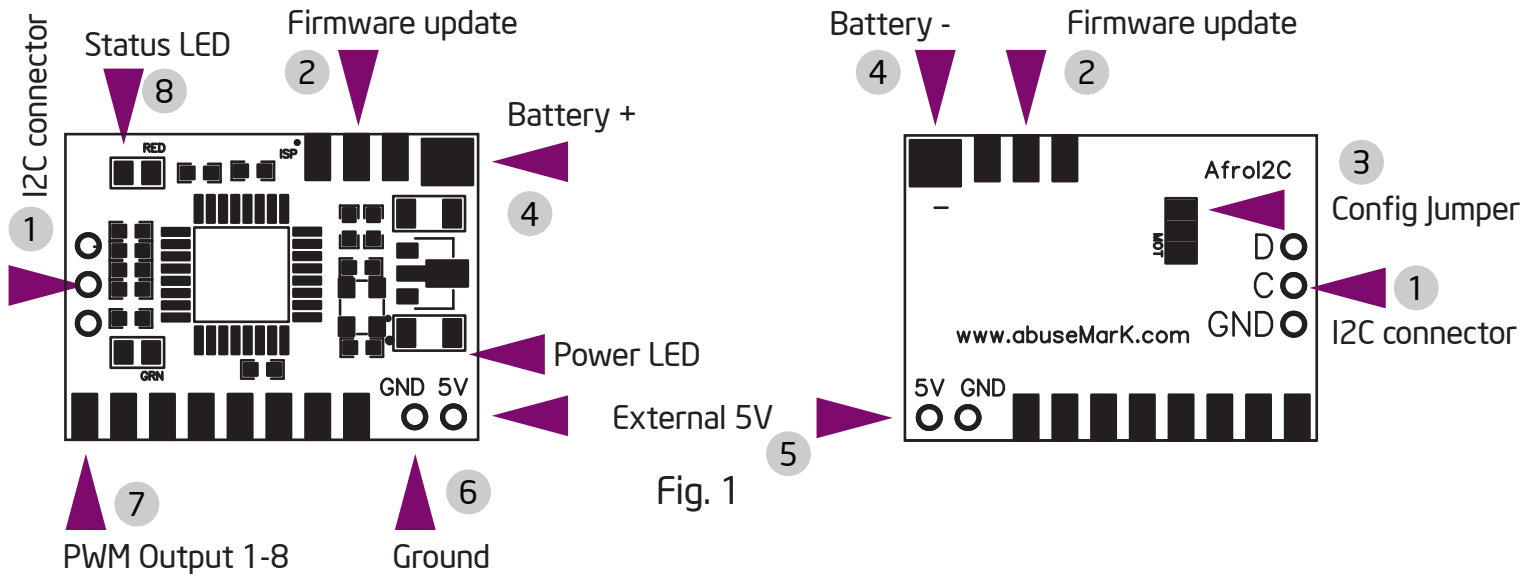

Fig. 1
1. Disconnect I2C plug from the board (Fig.1 1)
4. Status LED (Fig.1 8) will blink, while controllers will make calibration beep sounds.
1. Connect 6-pin ISP cable to the converter’s “Firmware update” header. (Fig.1 2).
On power-up the Status LED (Fig.1 8) blinks rapidly for a few seconds, then blink more slowly to count the number of configured motors. Default configuration is 4, so there will be 4 blinks, after which the LED turns off.
1. Connect Standard ESC to PWM Output pins 1-8 (Fig.1 7)